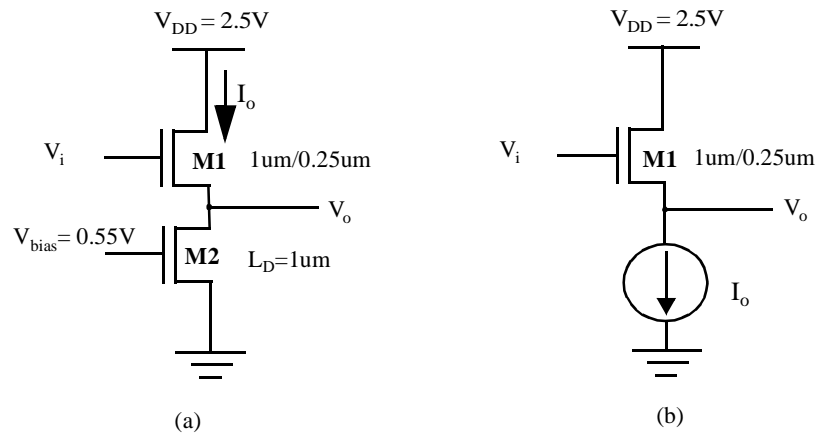

Figure 5.7 NMOS source follower configuration
9. The circuit in Figure 5.7 is known as the *source follower* configuration. It achieves a DC level shift between the input and the output. The value of this shift is determined by the current  $I_0$ . Assume  $x_d=0$ ,  $\gamma=0.4$ ,  $2|\phi_f|=0.6\text{V}$ ,  $V_{T0}=0.43\text{V}$ ,  $k_n'=115\mu\text{A}/\text{V}^2$  and  $\lambda=0$ .
- a. Suppose we want the nominal level shift between  $V_i$  and  $V_o$  to be 0.6V in the circuit in Figure 5.7 (a). Neglecting the backgate effect, calculate the width of M2 to provide this level shift (Hint: first relate  $V_i$  to  $V_o$  in terms of  $I_D$ ).
- b. Now assume that an ideal current source replaces M2 (Figure 5.7 (b)). The NMOS transistor M1 experiences a shift in  $V_T$  due to the backgate effect. Find  $V_T$  as a function of  $V_o$  for  $V_o$  ranging from 0 to 2.5V with 0.5V intervals. Plot  $V_T$  vs.  $V_o$ .